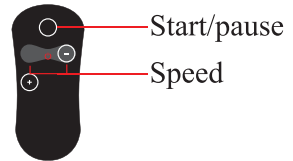

figure 2
Try to touch your toes with your hands. Hold for 10-15 seconds, then relax. Repeat with each leg three times (see figure 2)
2. Hold the remote control and aim it at the display window of the treadmill (as shown in FIG. 2) within 10 seconds after unplug the treadmill security lock (as shown in FIG. 1). Meanwhile, press the start/pause button on the remote control for about 3 seconds, and the system will sounds "didi...", indicating that the remote control and treadmill have been successfully paired, and the remote control can be used to control the treadmill normally.